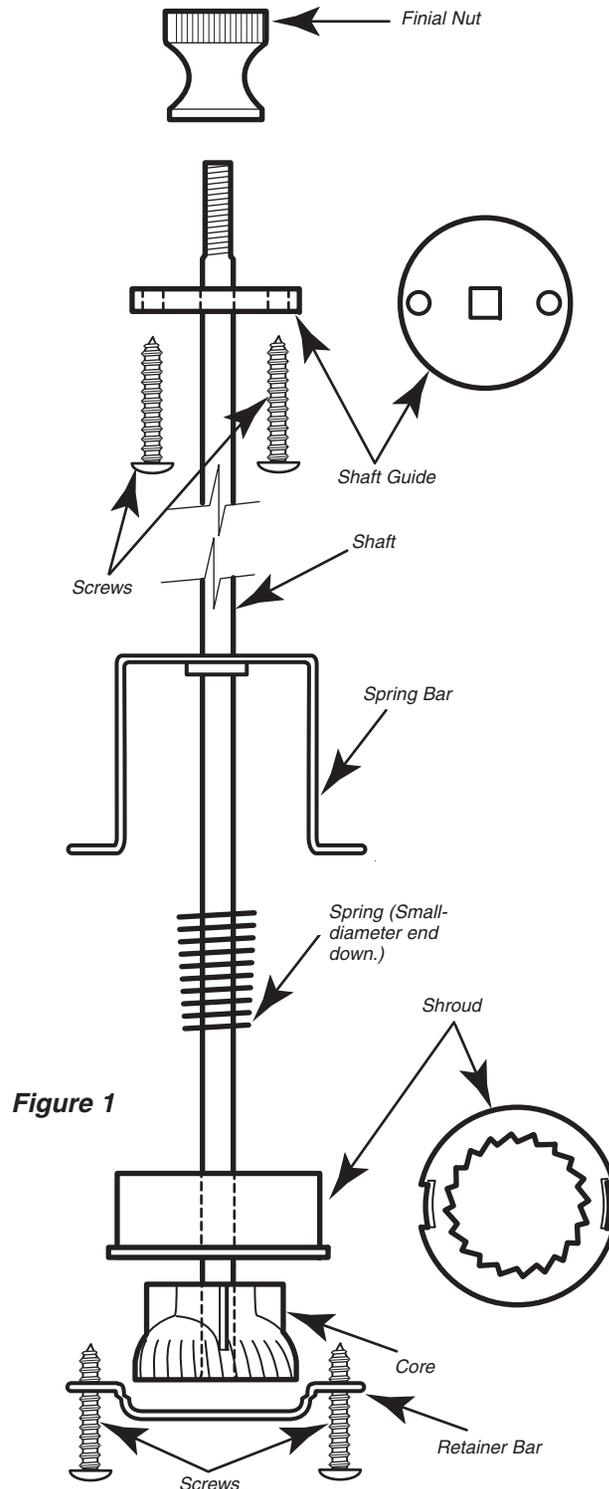

Figure 1
Consult Figure 1 to make sure you have all the components. Figure 2 shows critical measurements that will influence your design. Figure 3 shows assembly of the mill only. It is **not** intended to be a plan for your turning.
Place the retainer bar over the mill assembly (oriented as shown in Figure 1), lining up the screw holes with those on the spring bar. Press and hold the retainer bar down with a finger and insert screws. Tighten both screws, being careful not to overtighten as this would strip out holes.
1. Mount the blank between centers and rough turn the blank to round. Layout the Mill Head and Mill Body on the blank and turn a 1/2" wide spigot 1-1/16" in diameter. (See Figure. 1)
2. Cut tenons #1, #2, and #3 as shown in Figure 1.